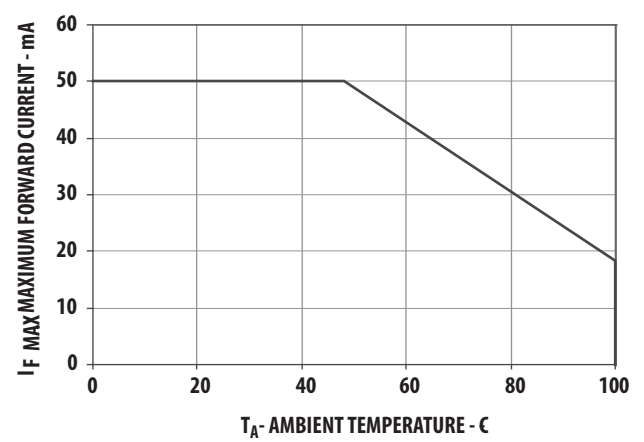
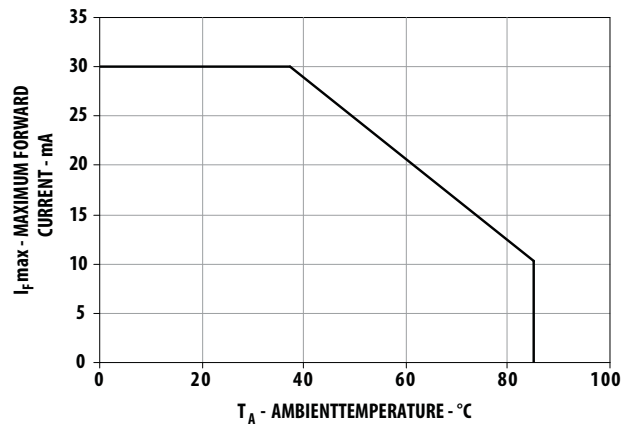

Figure 4. Maximum Forward Current vs Ambient Temperature
Figure 8. Maximum Forward Current vs Ambient Temperature
1. Derate linearly as shown in Figure 4 and Figure 8